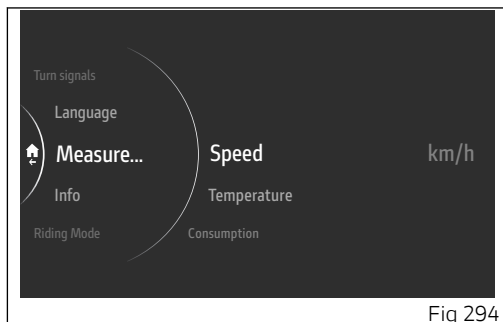

Fig 294
- Select the "Speed" item and press ENTER (Fig 294).